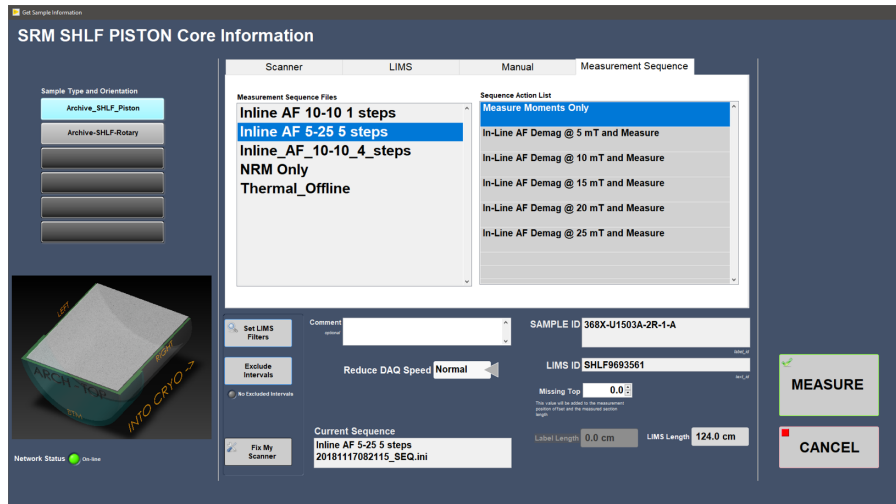
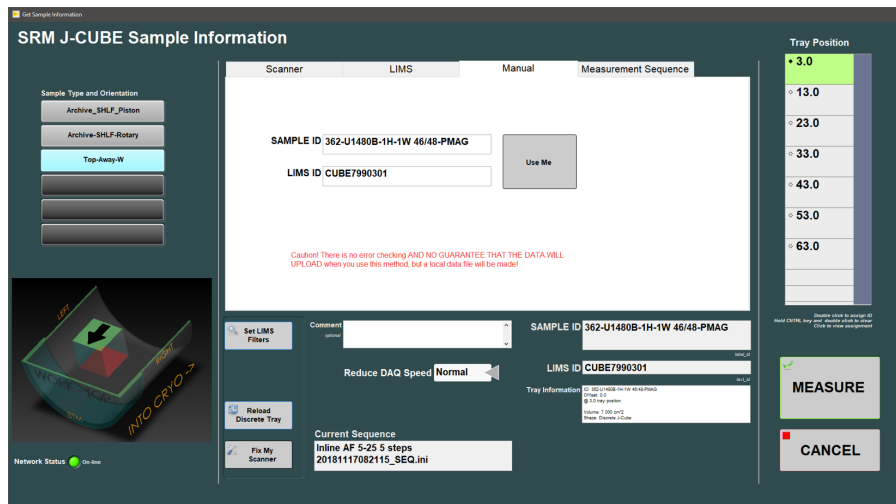

Figure 20- Sample Information Window: Measurement Sequence Selection
Figure 26- Sample Information Window: Discrete Manual Entry
Click **START** on the IMS panel (**Figure 2**) to open the sample information window (**Figure 20–Figure 26**). This is where the user enters the sample ID for a section or discrete sample and initiates the measurement.
The user can select a premade measurement sequence in the **Measurement Sequence** tab (**Figure 20**). The last used measurement sequence will remain in memory and is displayed at the bottom of the sample information window. If the sequence displayed is correct, the user does not need to utilize the measurement sequence tab.
The user can select a premade measurement sequence in the **Measurement Sequence** tab (Figure 20). The last used measurement sequence will remain in memory and is displayed at the bottom of the sample information window. If the sequence displayed is correct, the user does not need to utilize the measurement sequence tab.
- 2) Select a measurement sequence in the **Measurement Sequence** tab (Figure 20). The sequence may already be selected and displayed in the lower portion of the window.
- 3) Select a measurement sequence in the **Measurement Sequence** tab (**Figure 20**).
- **Manual** entry mode: Type in the sample label ID (i.e., 362-U1480B-1H-2-W 117/119-PMAG) and LIMS Text ID (i.e., CUBE7990351) (**Figure 26**). Anything will be accepted, but that does not guarantee the data will upload. The ID information must match an actual sample in order for the data to upload.
- The Sample ID and LIMS ID should be displayed below the manual entry tab as seen in **Figure 26**.